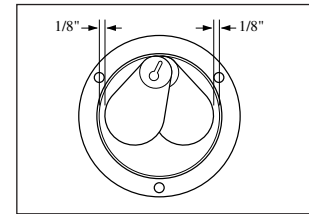

Figure 2
2. Adjust set screw until valve paddle is 1/8" away from inside O-ring and edge as shown in Figure 2.